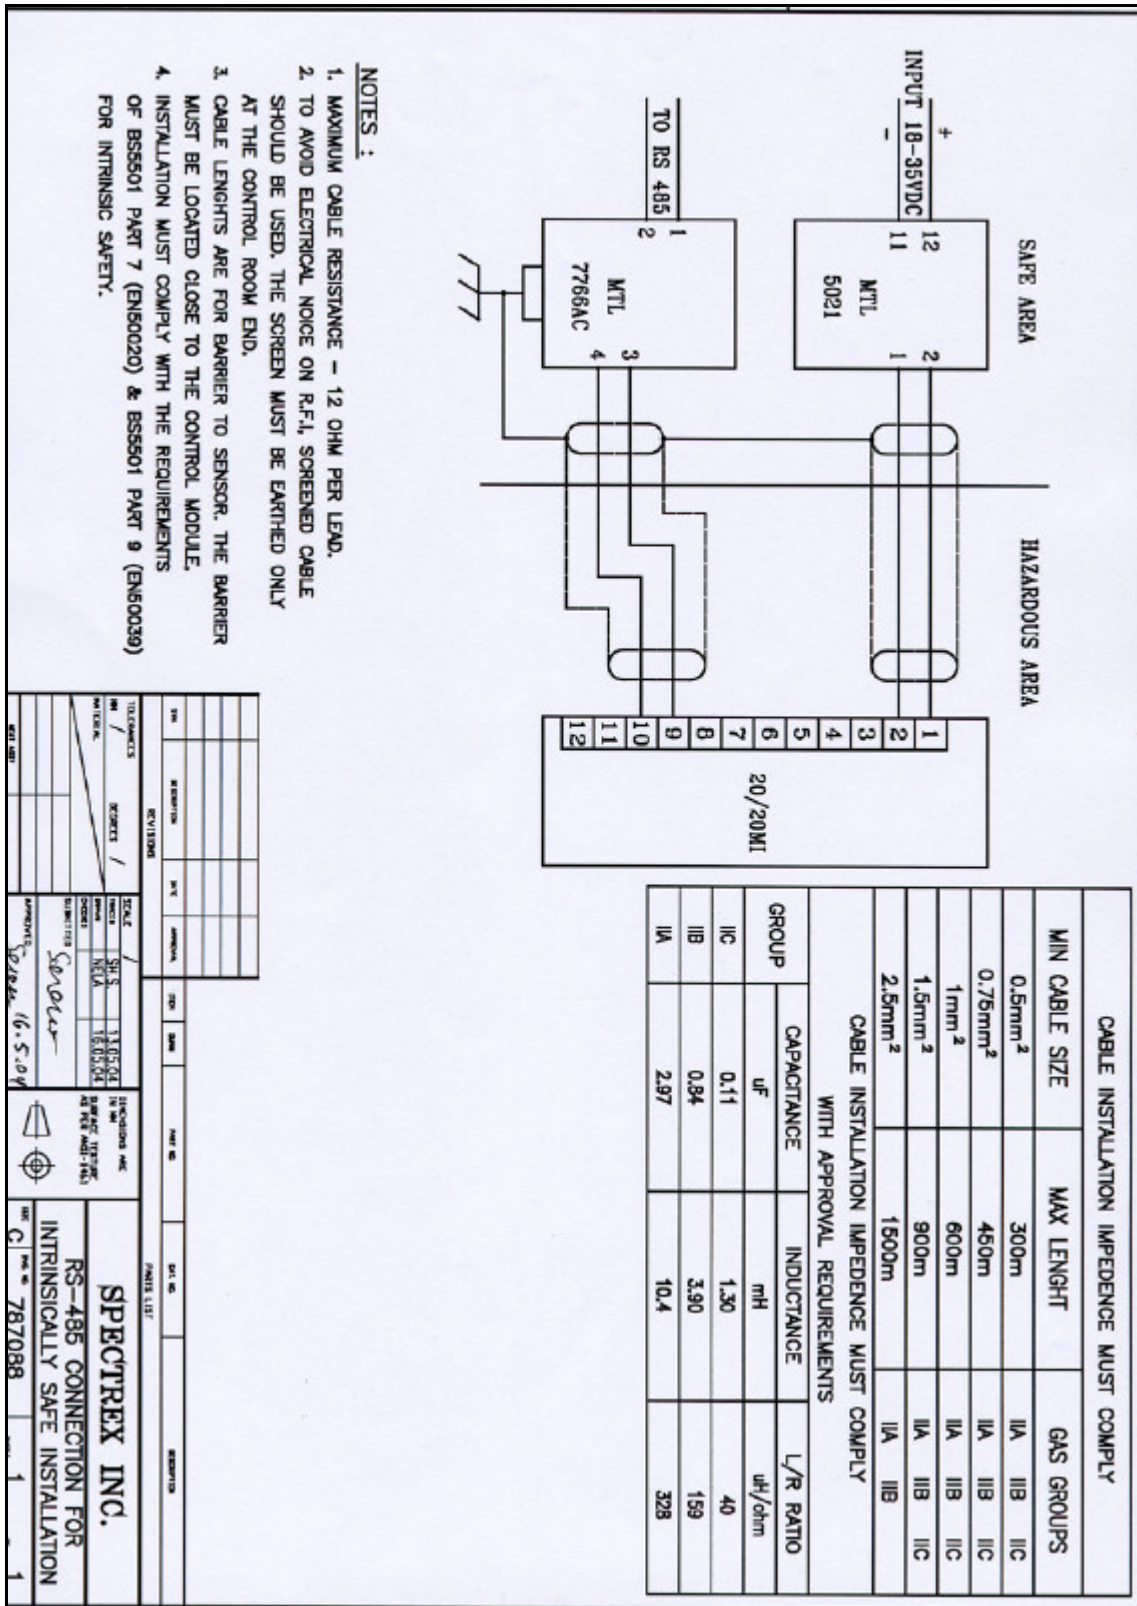

Figure 15: RS-485 connection for Intrinsically Safe installation
- 2 Aim the Spectrex Fire Simulator Model 20/20-310 at the target point of the detector (see Fig. 15), in a way that the radiation emitted by it is facing directly towards the detector. (See appendix B)